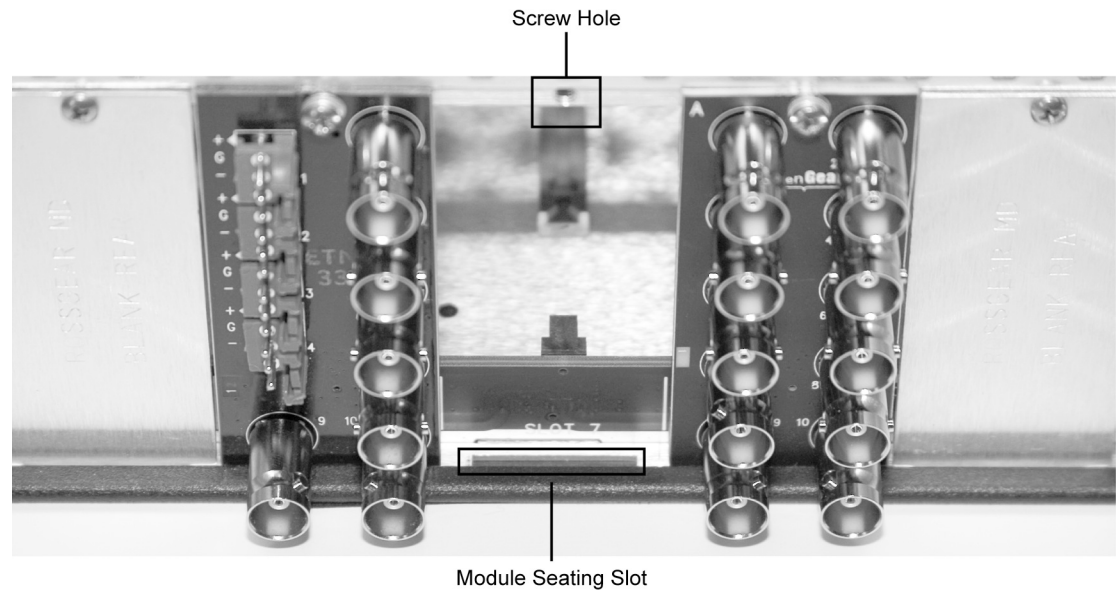

Figure 2. Rear Module Installation
3. As shown in Figure 2, seat the bottom of the rear module in the seating slot at the base of the frame's back plane.